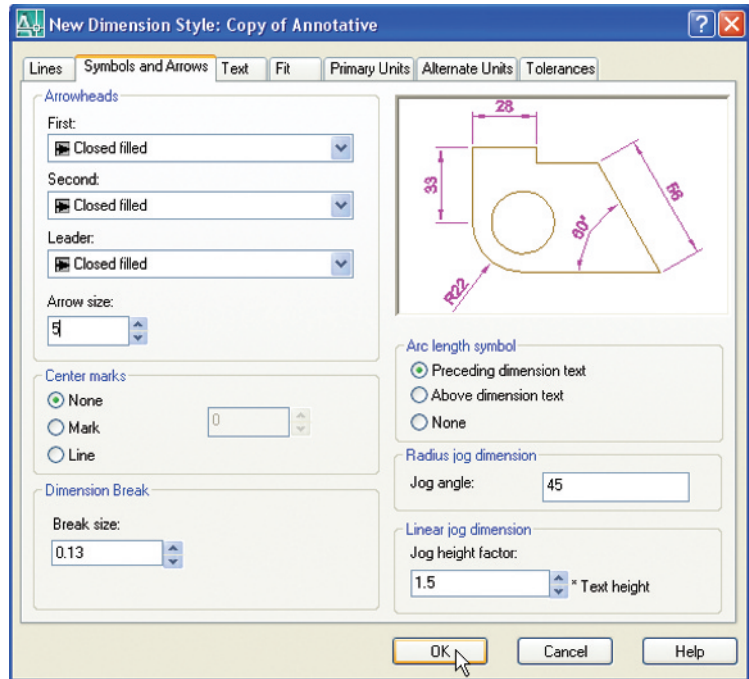

Fig. 4.11 Setting symbols and arrows in the **New Dimension Style** sub-dialog
3. The **New Dimension Style** sub-dialog appears (Fig. 4.11). In the dialog make settings as shown. Then *click* the **OK** button of that dialog.